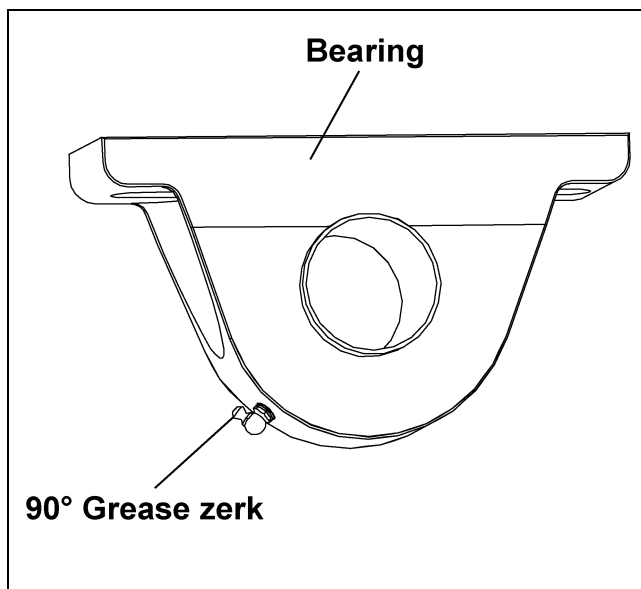

Figure 5I
- B. Replace standard grease zerks with 90° grease zerks on both bearings. Make sure the 90° grease zerk is turned as shown in Figure 5I, so the zerks are accessible from the center of the tractor drive stand.
- Attach Bottom Chain Guard Weldment to Tractor Drive Stand using 3/8" x 1-1/4" HHCS bolts, 3/8" split lock washers, and 3/8" hex nuts. (See Figure 5I.)